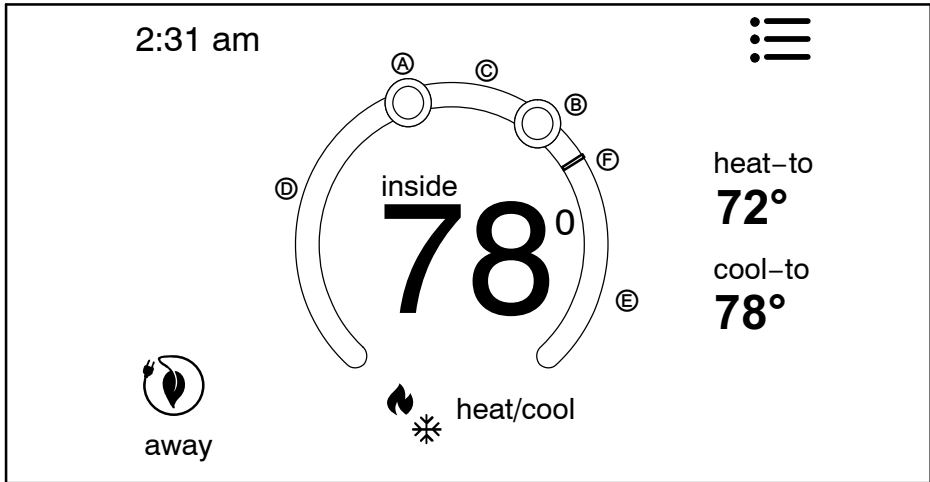

Figure 1. Temperature Dial Feature
- C.** This is the location area where no system demand is active. In figure 1, the example would be any temperature between 73°F and 77°F.